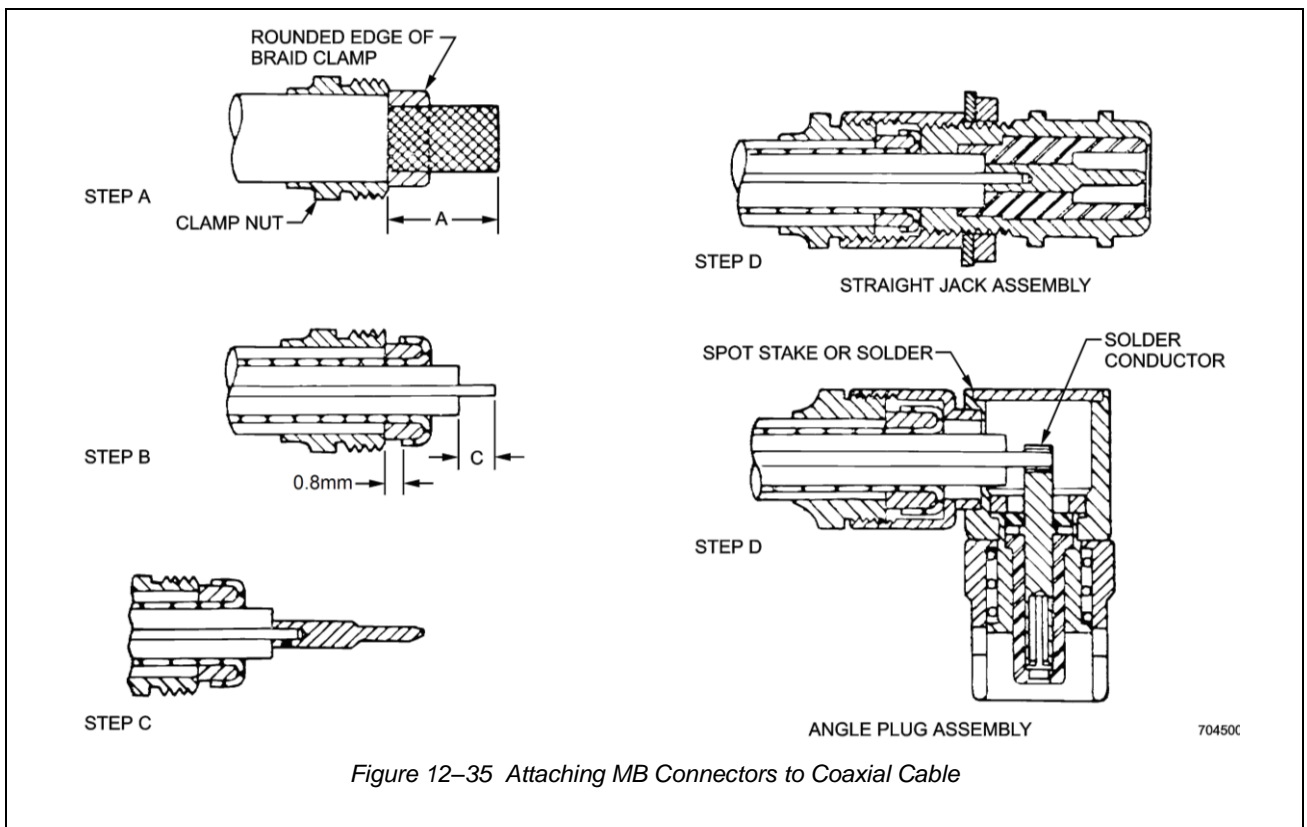

Figure 12-35 Attaching MB Connectors to Coaxial Cable
27. The assembly procedure differs according to the cable used. For assembly to cables RG-58/U and RG-141/U, the procedure is as follows (see Figure 12-35):